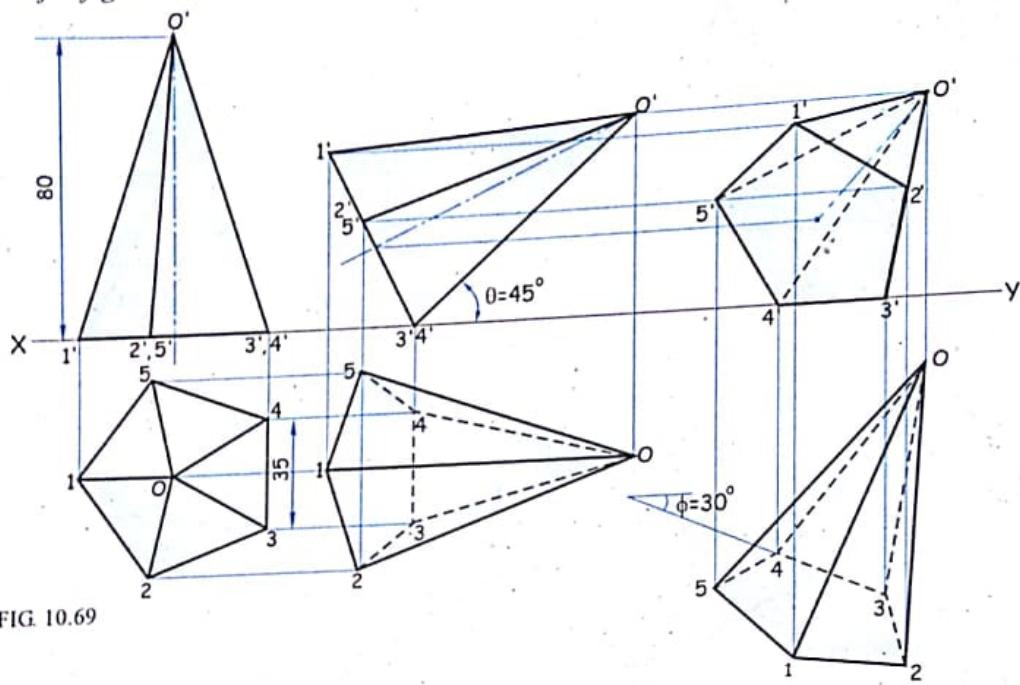

FIG. 10.69
**Solution :** Refer figure 10.69. It is self explanatory.